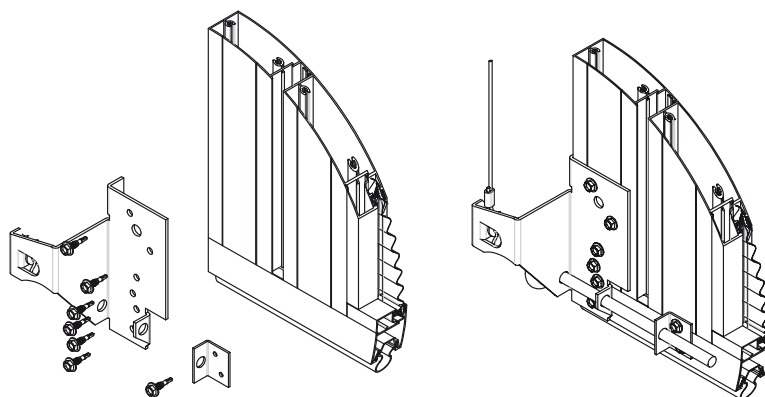

Fig: 5.1.1
- Secure the bottom hanger and bottom panel bracket to the bottom panel with tek screws as shown in Fig 5.1.1.